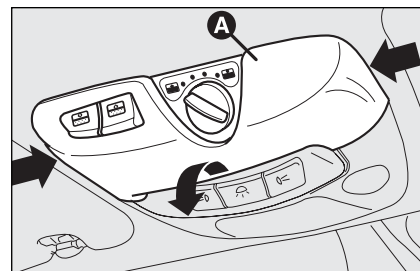

fig. 43
- remove the front ceiling light **A**-fig. 43 pressing the plastic cover as shown by the arrows